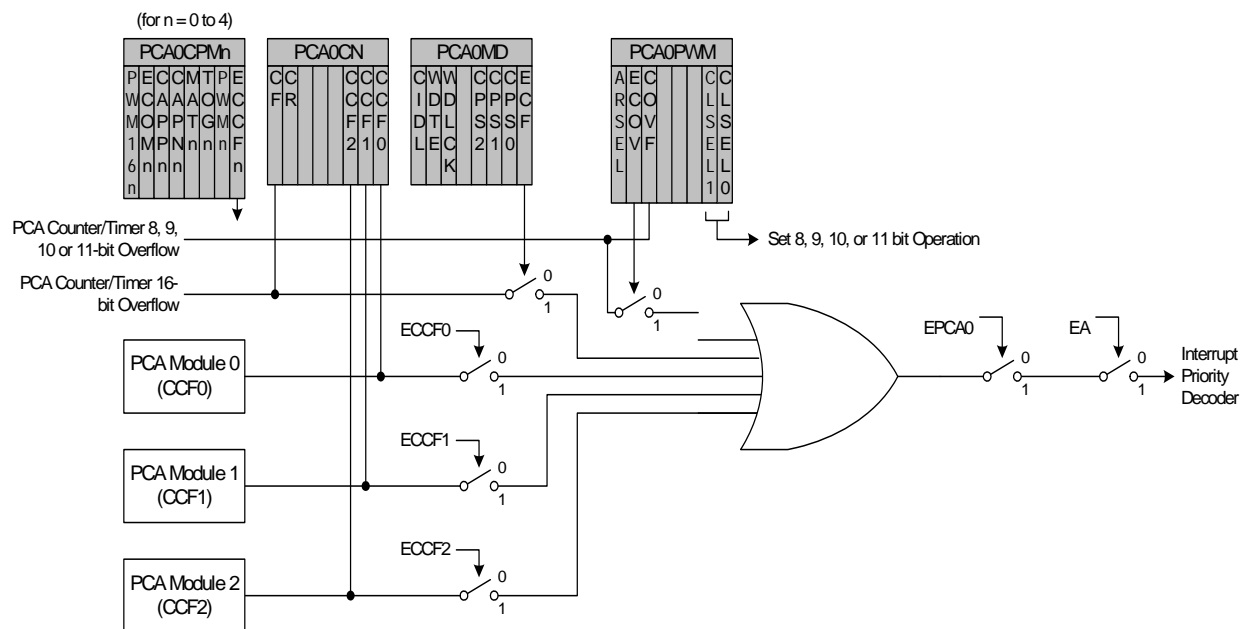

Figure 24.3. PCA Interrupt Block Diagram
Figure 24.3 shows a diagram of the PCA interrupt tree. There are five independent event flags that can be used to generate a PCA0 interrupt. They are: the main PCA counter overflow flag (CF), which is set upon a 16-bit overflow of the PCA0 counter, an intermediate overflow flag (COVF), which can be set on an overflow from the 8th, 9th, 10th, or 11th bit of the PCA0 counter, and the individual flags for each PCA channel (CCF0, CCF1, and CCF2), which are set according to the operation mode of that module. These event flags are always set when the trigger condition occurs. Each of these flags can be individually selected to generate a PCA0 interrupt, using the corresponding interrupt enable flag (ECF for CF, ECOV for COVF, and ECCFn for each CCFn). PCA0 interrupts must be globally enabled before any individual interrupt sources are recognized by the processor. PCA0 interrupts are globally enabled by setting the EA bit and the EPCA0 bit to logic 1.